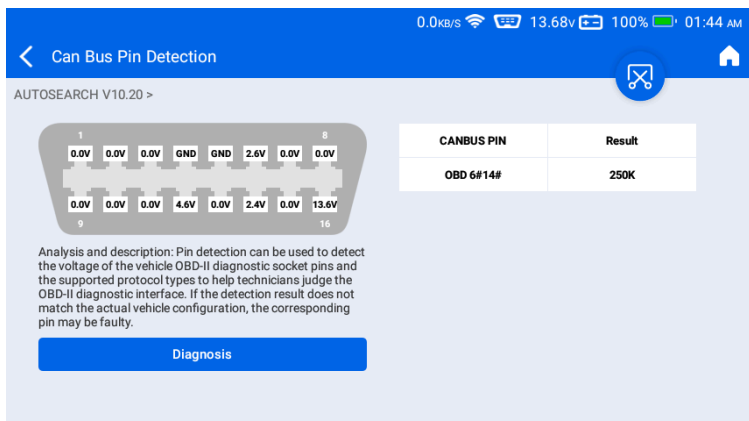

Figure 4-13
- Result Table:** The result table shows the detected communication pins and the corresponding baud rate. Using Figure 4-13 as an example, the tool identifies Pins 6 and 14 as a CAN bus operating at 250 Kbps, indicating a proper communication link between the diagnostic device and the vehicle.